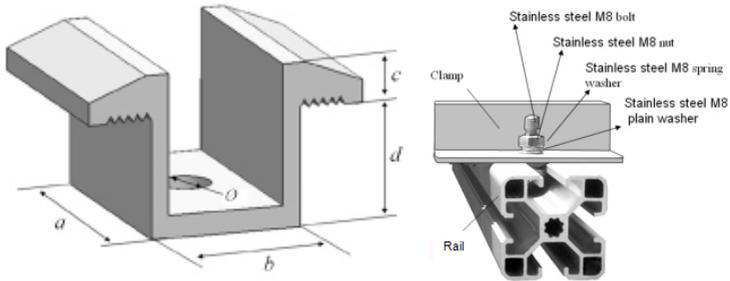
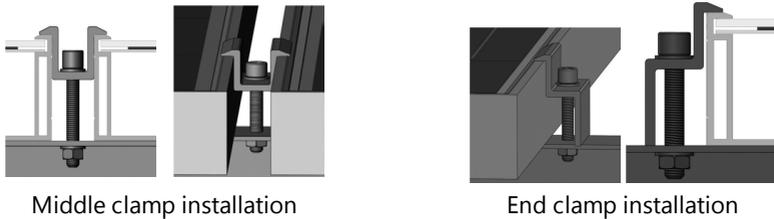

Figure 2: Middle clamps (left) and side clamps (right)
Figure 3: End clamp and middle clamp installation
The dimensions for the middle clamps are:  $a \geq 40$  mm,  $b \geq 26$  mm,  $c = 8$  mm,  $d \geq 28$  mm, and  $\varnothing = 9$  mm (See *Figure 2*)
4. Close-ups of the middle clamps and the side clamps are indicated in *Figure 2* and *Figure 3*.